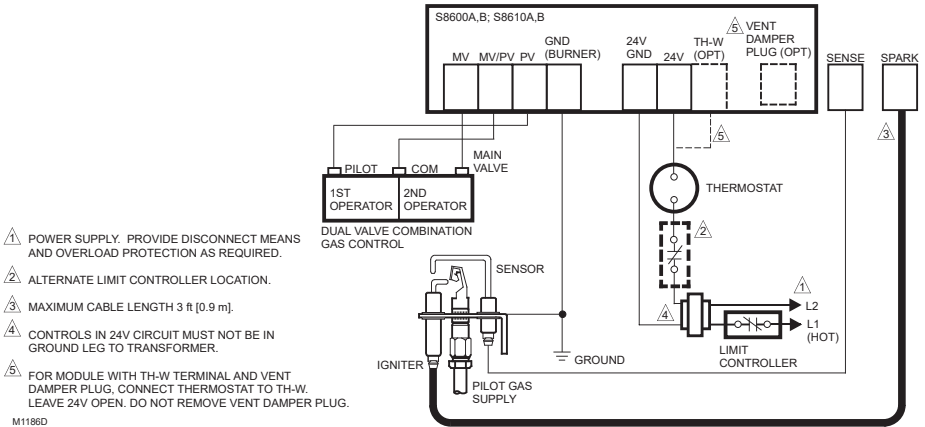
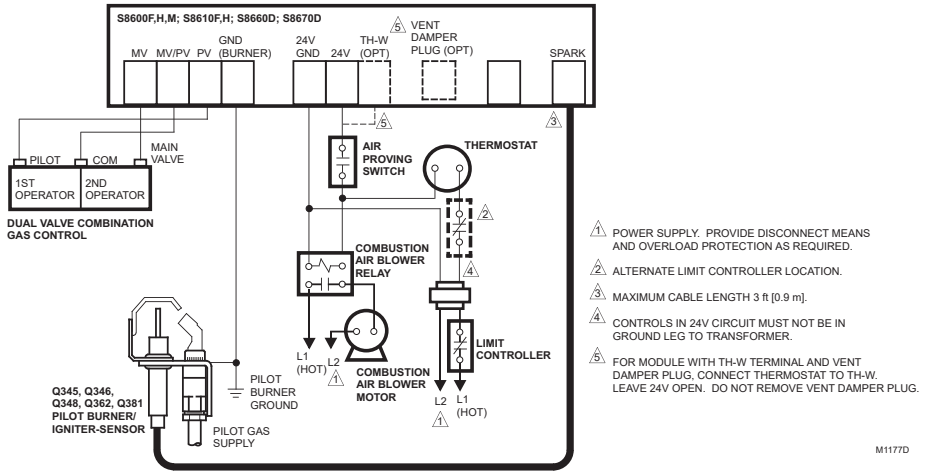

Fig. 3. S8600A,B; S8610A,B Connections in a Heating System with an Atmospheric Burner.
Fig. 5. S8600F,H,M; S8610F,H; S8660D; S8670D Connections in a Heating System with Power-Assisted Combustion.
4. Figures 3 and 4 show S8600A,B; S8610A,B with separate sensor and igniter, with and without the D80D vent damper.
5. Figures 5 through 10 show S8600F,H,M; S8610F,H; S8660D; and S8670D in a variety of systems, with alternate connections for modules with vent damper plug. Remember, however, that a vent damper should not be used in an fan-assisted combustion system or an LP gas system and that the vent damper plug must not be removed except to connect the module to a D80D with the plug-in cable. S8600A,B; S8610A,B can be substituted in these drawings by simply connecting the igniter and sensor as shown in Figures 3 and 4.